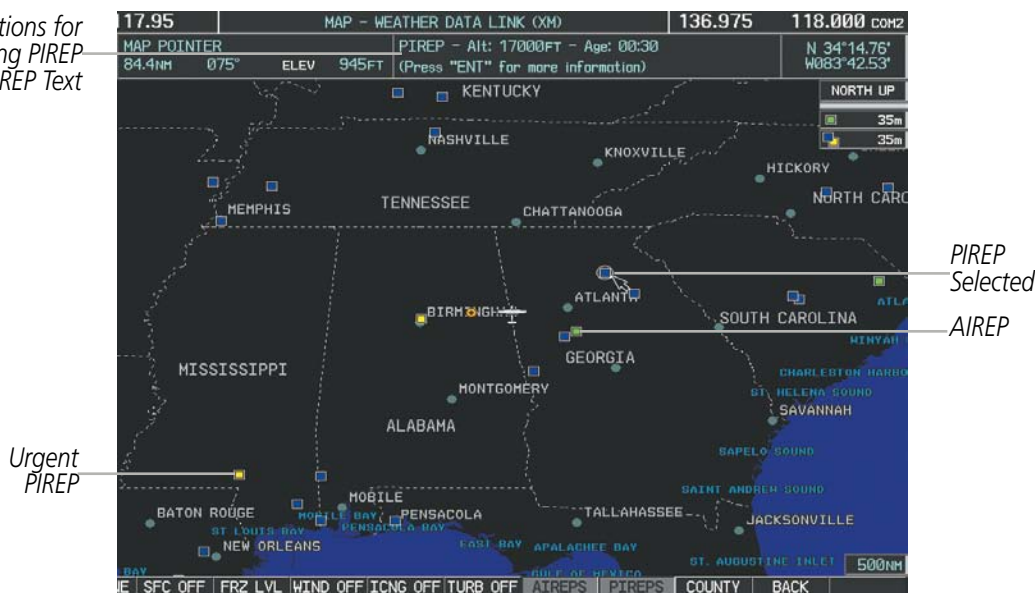

Figure 6-46 AIREPs and PIREPs on the Weather Data Link Page
Pilot Weather Reports (PIREPs) (Figure 6-46) provide timely weather information for a particular route of flight. When significant weather conditions are reported or forecast, Air Traffic Control (ATC) facilities are required to solicit PIREPs. A PIREP may contain adverse weather conditions, such as low in-flight visibility, icing conditions, wind shear, and turbulence. PIREPs are issued as either Routine (UA) or Urgent (UUA).